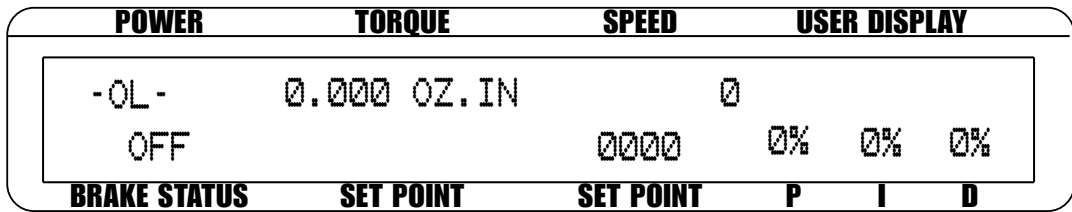

Fig.5-6 Power-OL-Display
- A. When the power exceeds that of the maximum power setting, the message -OL- will appear and blink in the power section of the display (as indicated in Figure 5-6).